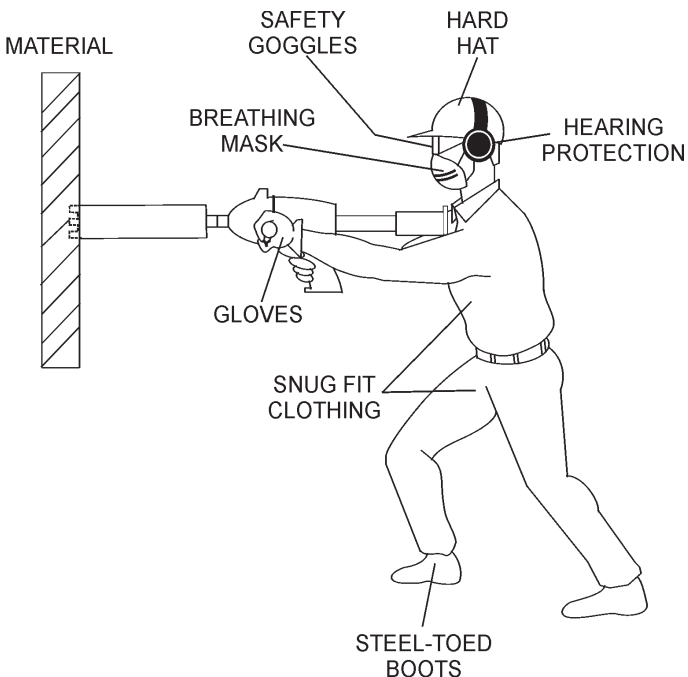

Figure 11. Wall Drilling Application
2. Using the supplied 5 mm allen wrench, remove the grease plug as shown in Figure 11.